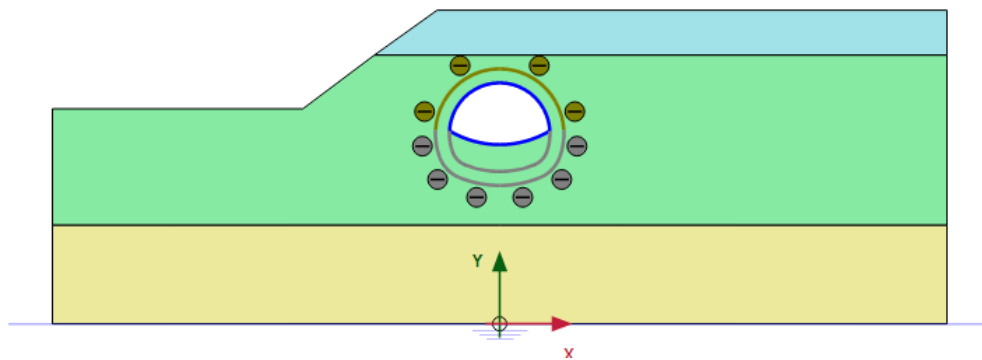

Figure 6-8: Configuration of Phase 2
- 3 Select the deactivated cluster. In the **Selection explorer** set **Deconfinement** to 100 % as shown in Figure 6-8 \(p. 117\).